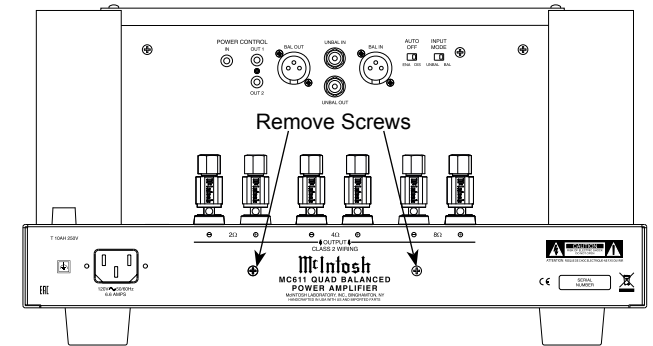

Figure 1
5. Using a suitable tool remove the two screws from the MC611 Rear Panel and temporarily place them in a safe place. Refer to figure 1.